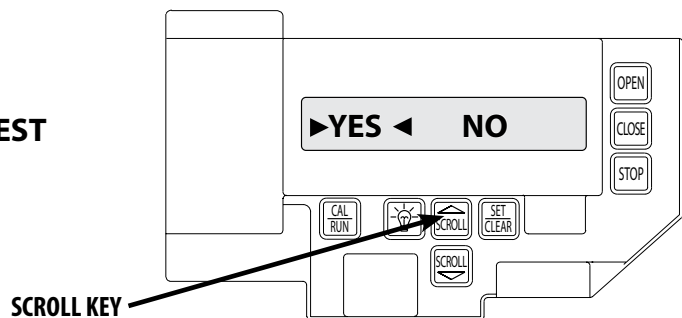

FIG. 4
4. Press SCROLL key (up or down) to toggle between YES and NO. FIG. 4. * If YES is selected, no change to operator calibration is made. If NO is selected the board will change the operator's down direction.